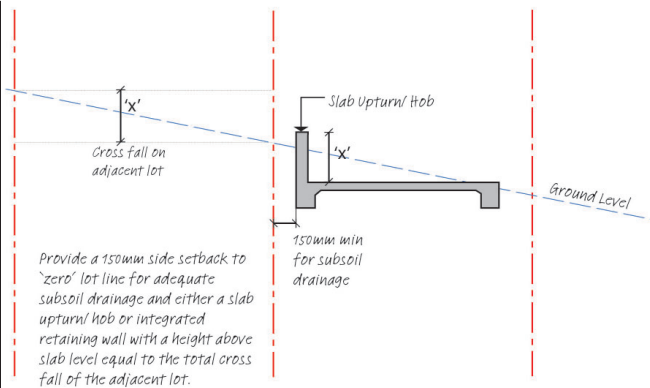

FIGURE 14: Zero Lot Line Construction Type 1
- be 150mm (approximately) where required to provide for subsoil and roof drainage (Figure 14); or